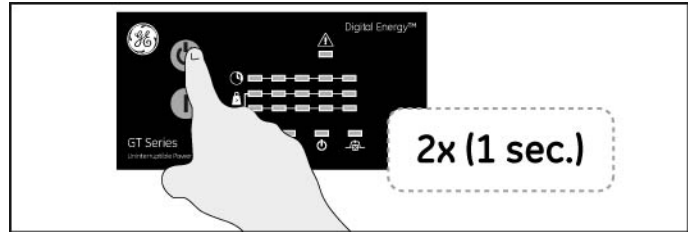

fig. 4.3.2.a
2. Press keypad "O" (fig. 4.3.2.a) for 1 second to switch the unit to bypass.
3. Press one more time the keypad "O" for 1 second to switch off the unit (fig. 4.3.2.a).
4. Turn the Output circuit breaker to position "off" (fig. 4.3.2.b / 4.3.2.c).